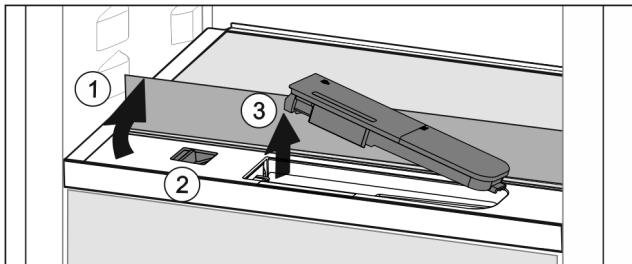

Fig. 152
- ▶ Lift the glass panel and fold towards the rear until it clicks into place Fig. 152 (1).
- ▶ Slide the slider Fig. 152 (2) to the left.
- ▶ Remove the water tank Fig. 152 (3).